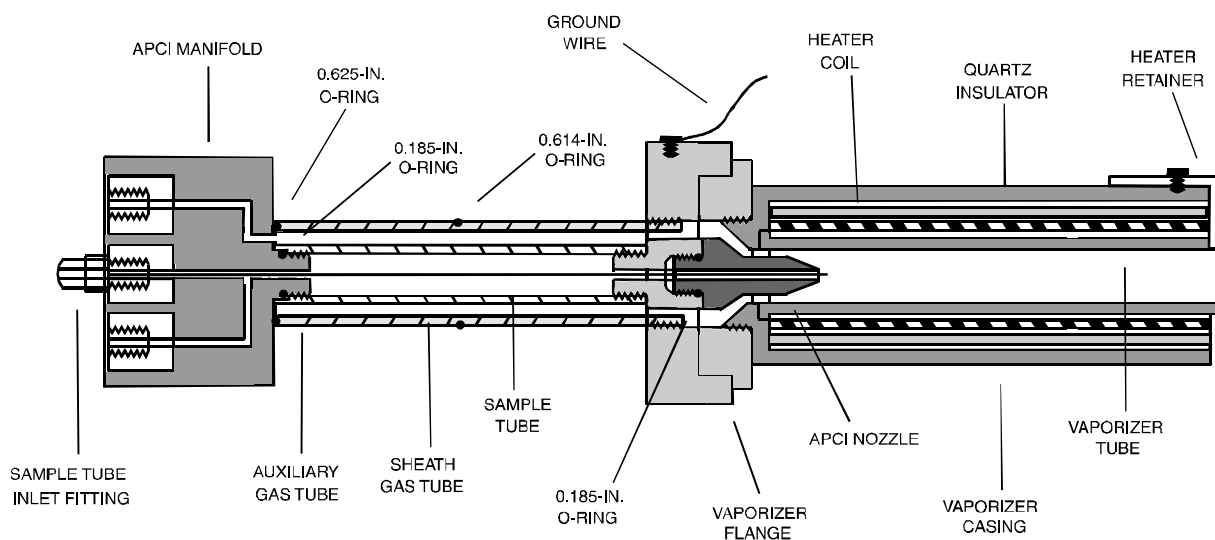

Figure 4-3. Cross sectional view of the APCI probe
Figure 4-3 shows the major components of the APCI probe. You do not need to vent the system to perform maintenance on the APCI probe.
1. Complete the disassembly of the APCI probe as follows. See Figure 4-3 on page 4-20 for the location of the components.